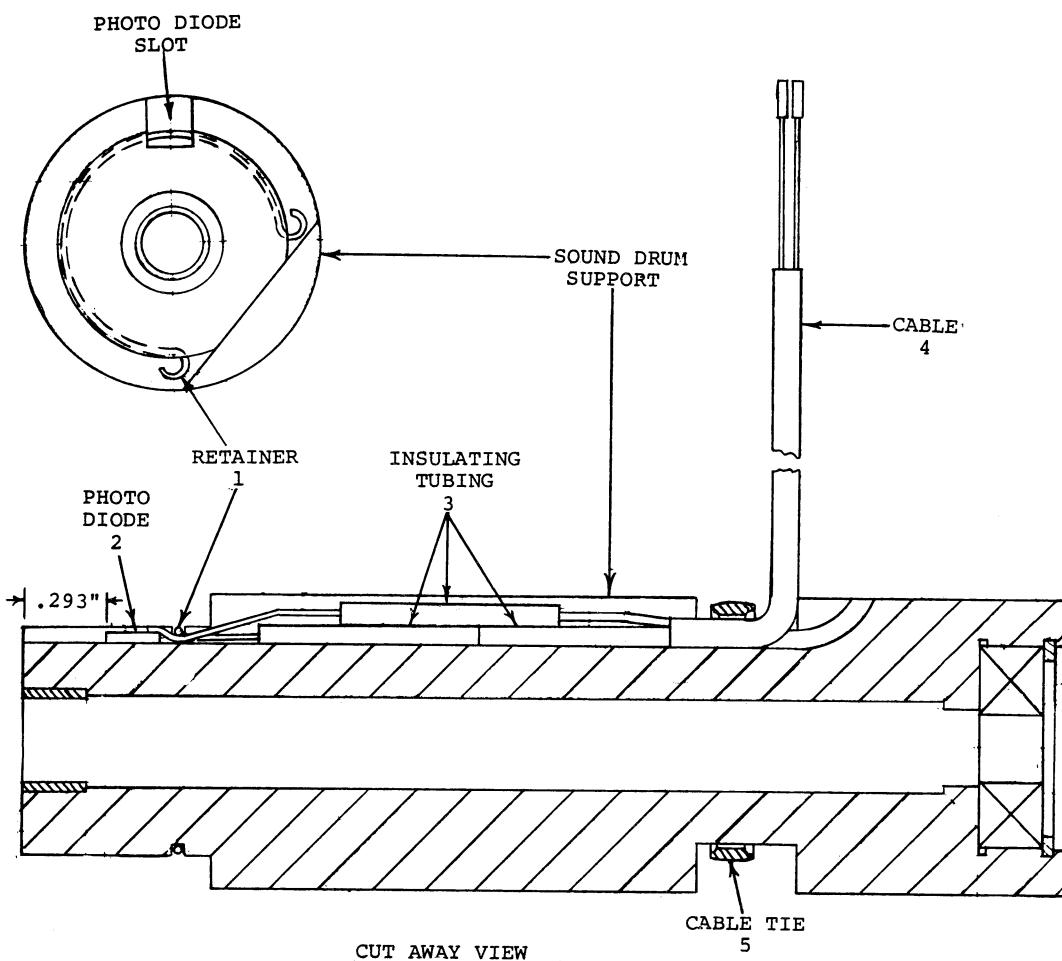

Figure 3-14. REPLACING PHOTO DIODE CHIP IN SOUND DRUM SUPPORT
Replacing Photo Diode Chip in Sound Drum Support (Figure 3-14)
2. Remove Retainer (1) Photo Diode (2) out of slot. Clip leads and discard Diode.
3. Remove Insulating Tubing (3) and unsolder remaining portion of Diode leads.
5. Position new Photo Diode into Slot with shiny, black surface up (red wire) and end aligned with mark made in Step 1. Assemble Retainer (1) to hold Photo Diode in place, orienting Retainer as shown in Figure 3-14. Make sure Photo Diode is perfectly flat in slot. (End of Photo Diode should be .293" -- about 9/32" -- from end of Sound Drum Support.) PHOTO DIODE IS VERY FRAGILE. BE VERY CAREFUL NOT TO BREAK IT!